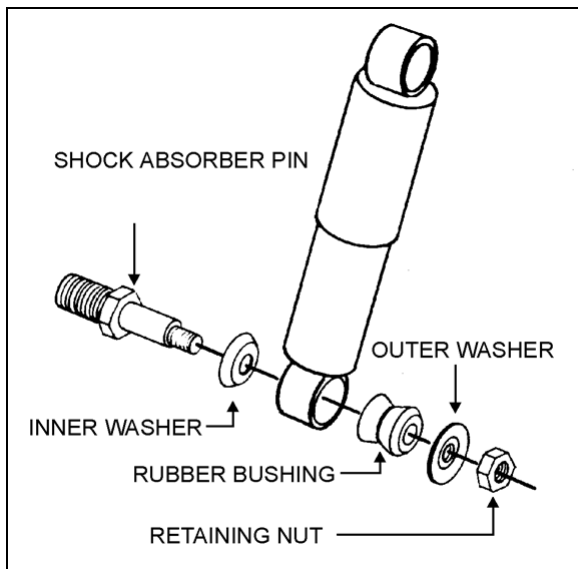

FIGURE 44: SHOCK ABSORBER 16008
1. Remove nuts and washers from shock absorbers on upper and lower mounting pins, taking care to identify the inner and outer washers to ease reinstallation. Refer to figure 44 for details.
rubber bushing) on each shock absorber pin (Fig. 44).